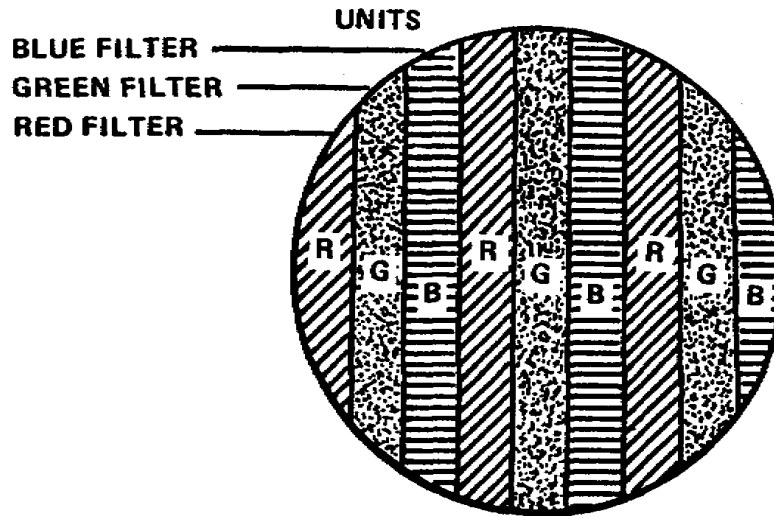

Figure 1-8. Stripe filter system
(3) The stripe filter. The third color separation device is the stripe filter that makes up the front surface of the pickup tube of a single gun camera. The incoming light is directed into a specific color and translated into the video signal (fig 1-8).